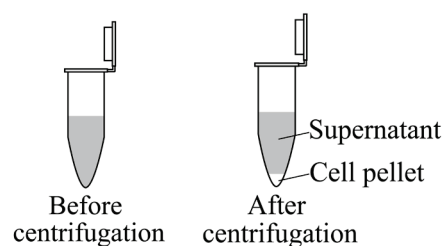

Fig. 23
24. To each of the tubes, using the P1000 micropipette and sterile tips, remove 400 μ l supernatant and discard it in a designated disposal container. Re-suspend the *E. coli* cells in the remaining liquid by pipetting it up and down (Fig. 23).